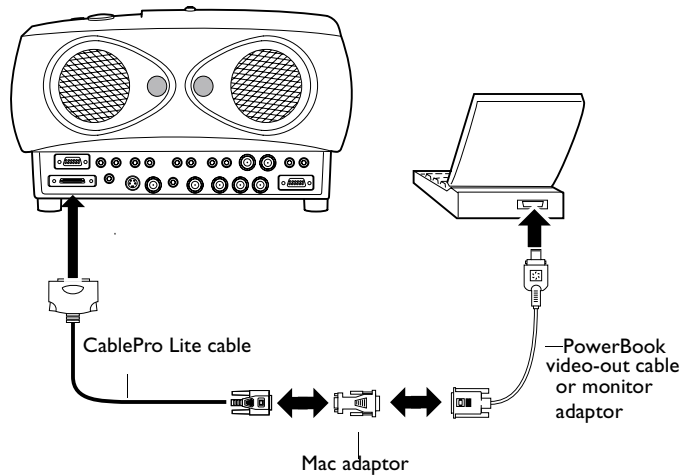

FIGURE 10
**NOTE:** Some PowerBooks require the Apple-supplied video-out cable or monitor adaptor for external video. Connect it between the PowerBook and the CablePro Lite computer cable/Mac adaptor as shown in Figure 10.